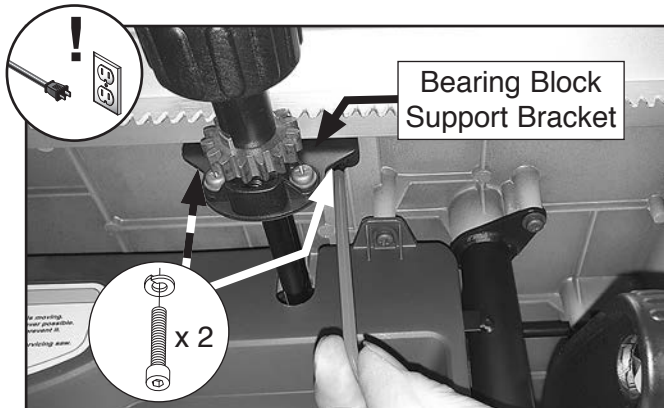

Figure 2. Loosening bearing support bracket.
4. Loosen (2) cap screws underneath front of fence that secure bearing block support bracket (see **Figure 2**). DO NOT remove cap screws.